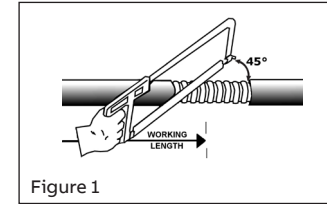

Figure 1
- Determine the working length (the length of conductors required inside the enclosure or device). Remove a portion of the outer jacket to expose the armor, cut armor using a hacksaw and trim the outer jacket to adjust the exposed armor strip length as indicated in the table (Figure 1). CAUTION: Do not nick or cut the conductor insulation.